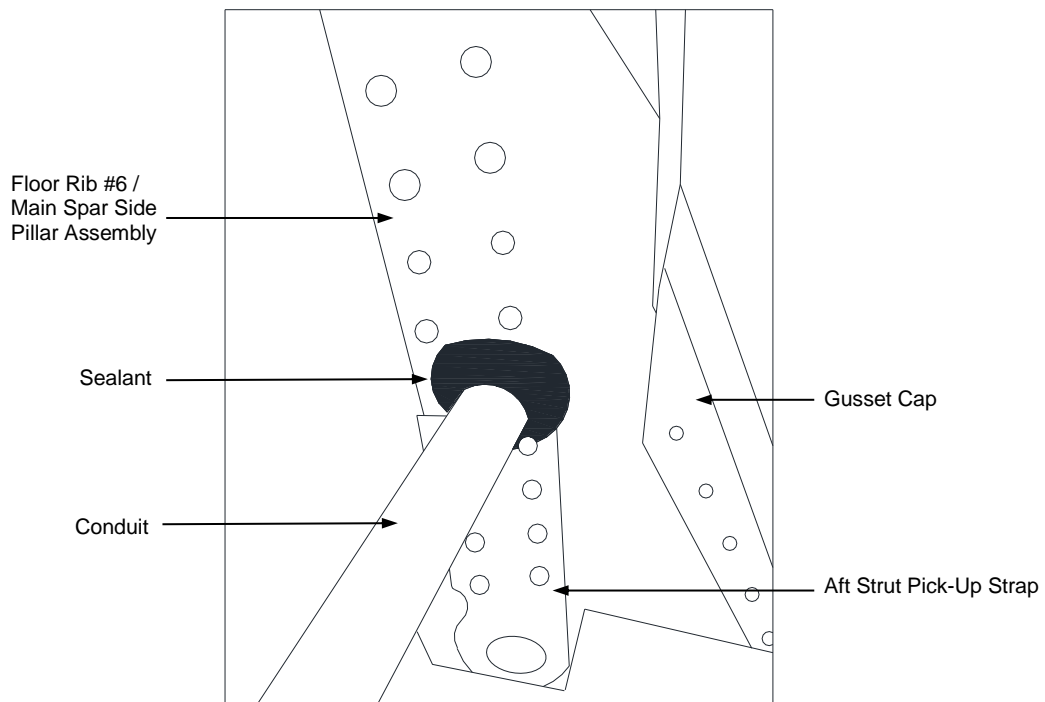

Figure 23: Forward Aileron Cable Conduit and Sealant
- 2) Remove the sealant surrounding the conduit at the penetrations of Rib #5 and #6 (See Figure 23) and at the aft end of the conduit.